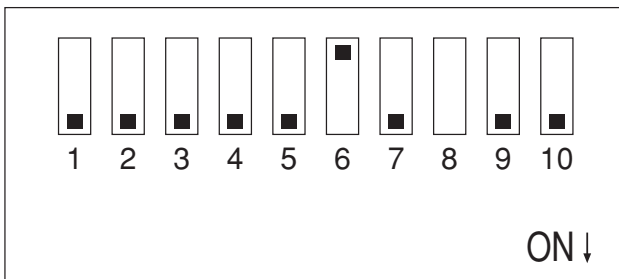

Fig.7 The Status of Dial-up (SW)
The status of dial-up (SW) is shown in Fig.7. If the ID address is 31, communication mode is 11 bits: 1 start bit, 8 data bits, odd, 1 stop bit and the baud rate is 600bps.